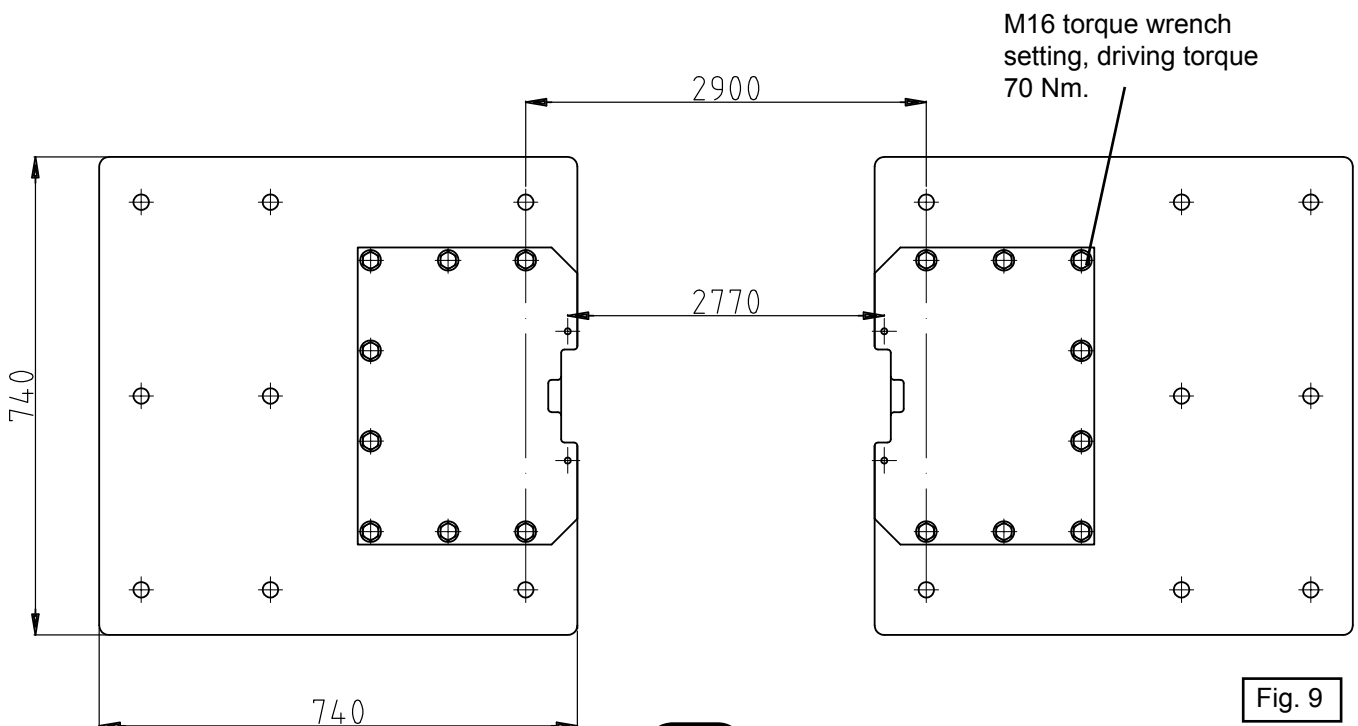

Fig. 9
In case the floor doesn't grant the required anchoring features, it will be necessary to provide for an additional plate as per following drawing (fig. 9)
- Position the posts as per diagram fig. 8 or fig.9 according to the use or not of the additional plate. Use a lifting mean having at least 500 kg. loading capacity and make sure that the posts are stable to prevent them from falling down during levelling and fastening operations.